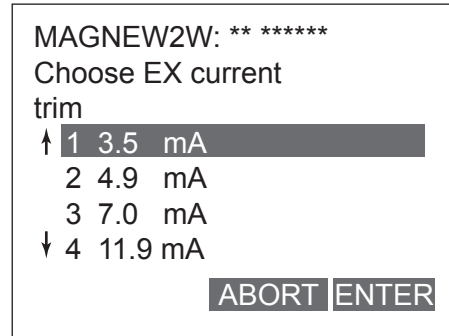

Fig. 7-59.
5. Fig. 7-59. will then appear. When executing the adjustment, press F4 (ENTER) to start the adjustment.